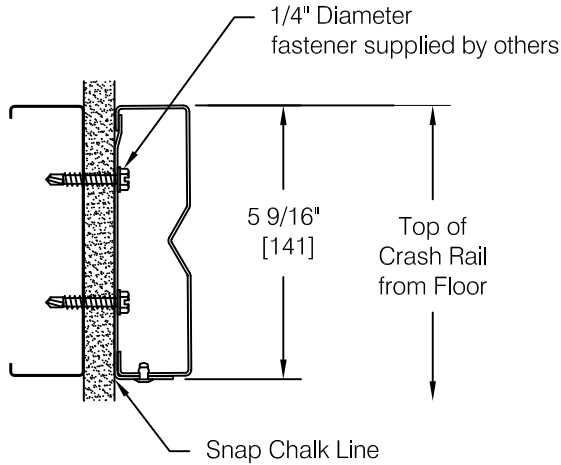

fig 1
Step 1: Determine top of crash rail height and snap a chalk line 5 9/16" below to locate bottom of mounting brackets, see **fig 1**.